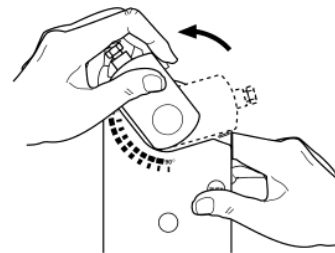

FIGURE 13
- b. Hold down the PUSH button and rotate the shaft adapter to the left until it stops. Figure 13.